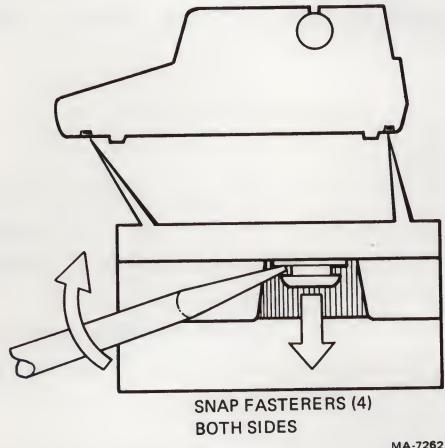

Figure 8-6 Printer Housing Removal
6. With a small blade screwdriver, release the four snap fasteners that secure the printer housing cover to the base assembly. Remove the printer housing (Figure 8-6).
6. Use a small blade screwdriver to release the four snap fasteners that secure the printer housing to the base assembly (Figure 8-6). Remove the printer housing.